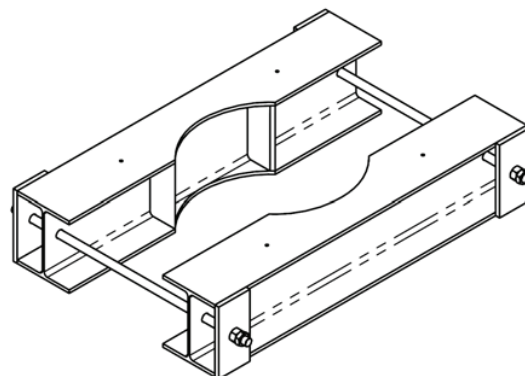

Figure 4-4: Typical Clamping Fixture
- Column and bowl assemblies must be lifted using an appropriate clamping fixture. The fixture must positively lock to the item being lifted and have adequate strength to support the assembly's weight. A common fixture design employs beams and threaded rods that can be fastened around the assembly (refer to Figure 4-4 on page 16). When clamping to threaded column, the upper column coupling must be fully installed to provide a stop for the lifting clamp placed below the coupling. If the column is supplied with optional lifting lugs, those may be used to lift the assembly.